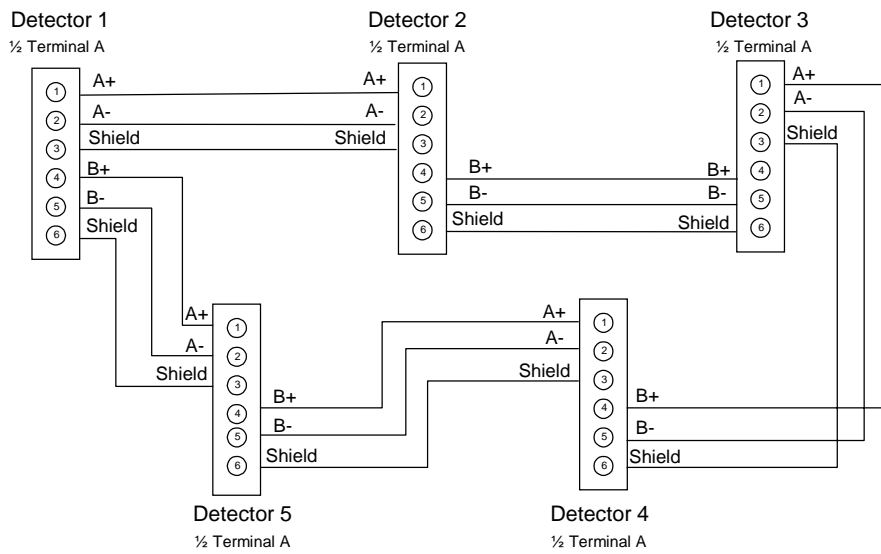

Figure 11 Wire Connection Details for VESDAnet (Closed Loop)
- Connect the VESDAnet wires as shown in Figure 11. This diagram is only an example for five detectors. This wiring method is similar for two or more detectors.
NOTE: It is strongly recommended that the Closed Loop configuration shown in Figure 11 is installed, to achieve a redundant fault tolerant loop. An Open Loop configuration is possible by not linking the VESDAnet wires between detector 1 and detector 5. Detector 1 and detector 5 must be programmed to the Opened Loop Configuration.